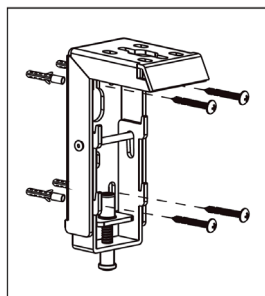

Fig. 4
2. **Mounting on concrete supporting structures:** Mark the hole points on your wall with the brackets on your wall and drill holes to match the enclosed dowels. The dowels must be inserted tightly into the holes. If the dowels go into the holes loosely, the holes are drilled too large and larger dowels and screws must be used or new holes drilled. Insert the dowels completely into the holes and screw the brackets in place with the screws provided, as shown in Fig. 4 and 5.